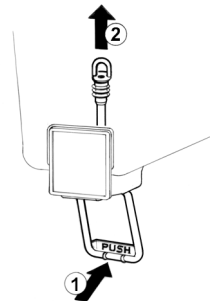

figure 2
- 5 **Pinch tube faucet:** push the dispensing handle (1) and take the pinch tube off from its seat (2) (see figure 2).